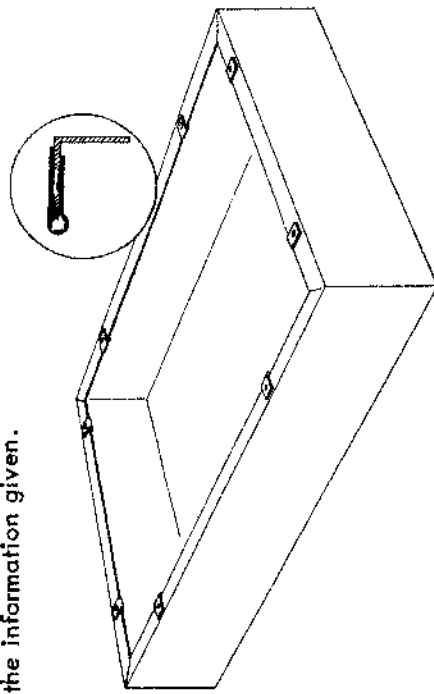

Fig. 7
- 6) Press a speed nut in place over each hole on the bottom flange of the chassis (see Fig. 7).